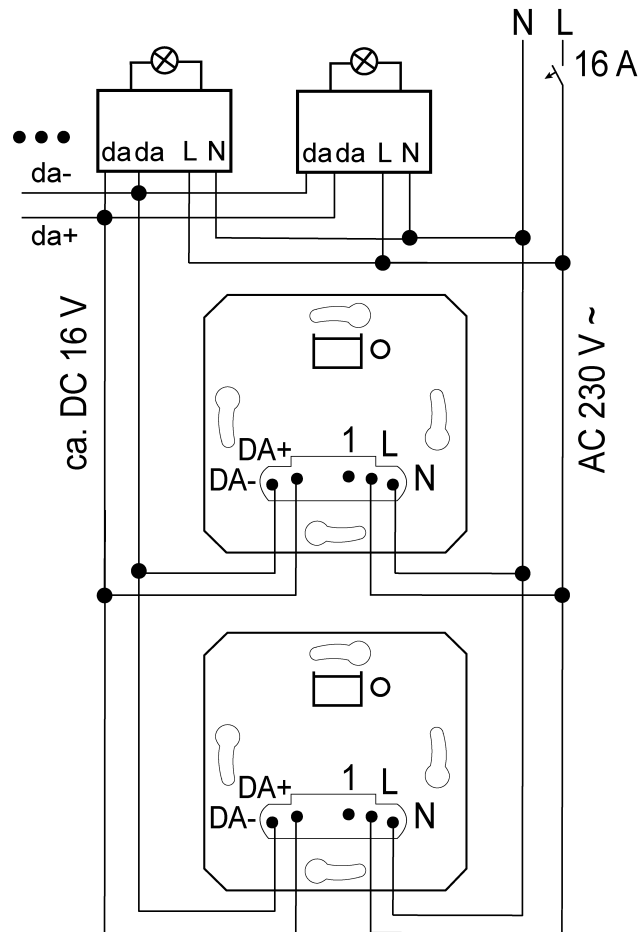

Figure 3: Switching DALI inserts in parallel
- When switching multiple DALI inserts in parallel, ensure correct polarity (Figure 3).